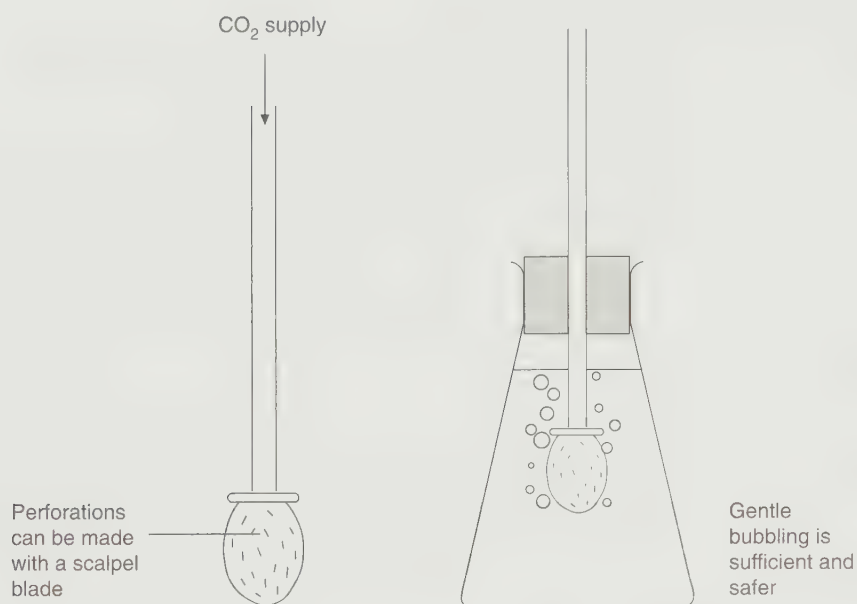

Figure 2 Perforated rubber policeman for CO₂ bubbling
- Carbon dioxide supply connected to a perforated rubber policeman (see Figure 2)
- Carefully bubble CO_2 through the solution as shown in Figure 2.